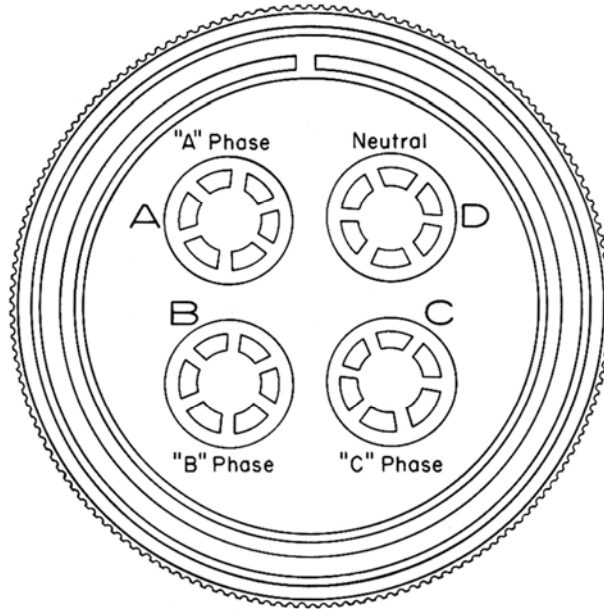
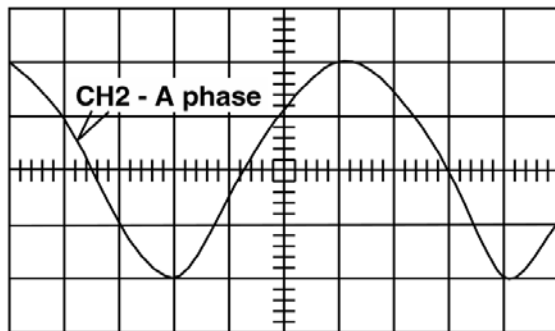
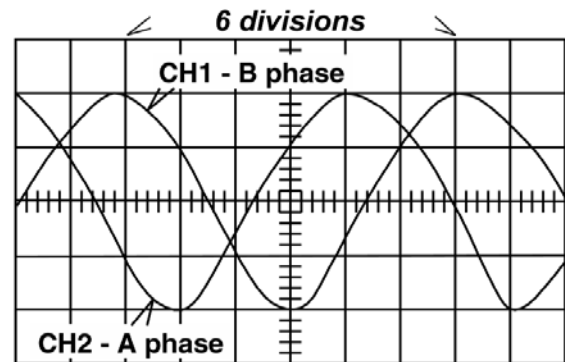
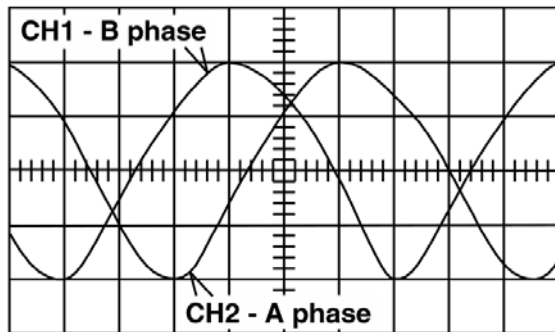

Figure 21. Power Cable, Military Plug, Transmitter end
Figure 22.1 Adjust oscilloscope so that the A - phase waveform matches this diagram.
Figure 22.2 Correct phase relation for A and B phase.
Figure 22.3 Incorrect phase relation for A and B phase.
NOTE: This test should be made at the military plug on the end of the transmitter power cable that plugs into the transmitter (*Figure 21*). This ensures that all the wiring is correct between the alternator and the input to the transmitter.
- 6.1.2. Place the ground lead of the Fluke on the neutral lead of the plug, i.e. lead "D" (*Figure 21*). Place the positive Fluke lead on leads (phases) A, B, and C (*Figure 21*) in turn and record the voltages for each phase. The voltages should all be within 10% of each other.
- 6.1.5. Connect the ground lead on the Ch2 probe on the oscilloscope to the neutral lead (*Figure 21*) on the military plug.
- 6.1.7. Carefully place the Ch2 probe on pin A (A phase) on the military plug (*Figure 21*). Adjust the VOLTS/DIV VAR knob to achieve a peak-to-peak signal of four divisions. Adjust the HORIZ MAG knob to achieve a peak-to-peak signal of six divisions. Adjust the horizontal POS knob to adjust the waveform (*Figure 22.1*).
the B phase (*Figure 21*). If you have the waveform on the oscilloscope such that the horizontal peak-to-peak signal is six divisions (*Figure 22.2*), then each division is equal to 60 degrees. Therefore, the B phase signal (Ch1) should be two divisions to the right of A phase (*Figure 22.2*). If the phase sequence is not correct, the B phase will lead the A phase by 60 degrees (*Figure 22.3*).
- 6.1.9.** If the B phase leads the A phase (*Figure 22.3*), reverse any two of the transmitter power cable leads on the alternator and repeat Section 6.1.